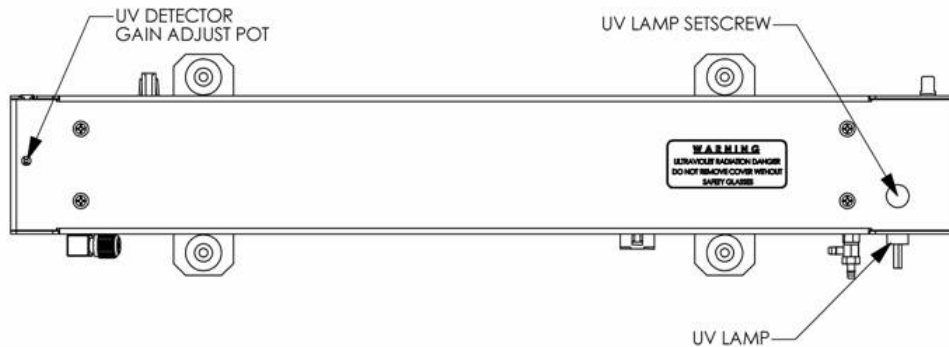

Figure 10-3: Photometer – Location of UV Detector Gain Adjustment & UV Lamp Set Screw
4. Locate the **UV DETECTOR GAIN ADJUST POT** on the photometer assembly (see Figure 10-3).
4. Locate the UV lamp at the rear of the optical bench assembly (see Figure 10-3)
9. Turn the UV detector gain adjustment pot (See Figure 10-3) clockwise to its minimum value. The pot should click softly when the limit is reached.